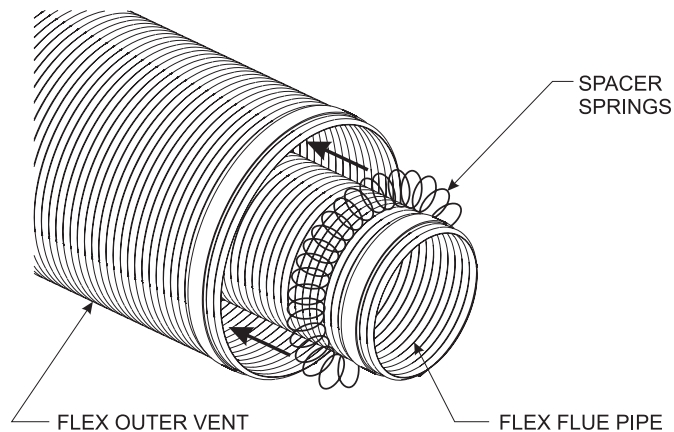

Figure 50
2. Check to see that the vent spacer springs are located around the flue vent at 8" intervals along its length. **See Figures 50 & 51.** If not, stretch the spacer springs to about 15" long and wrap them around the flue, then interlock the ends of each spring. Maintain equal distance between spring spacers.